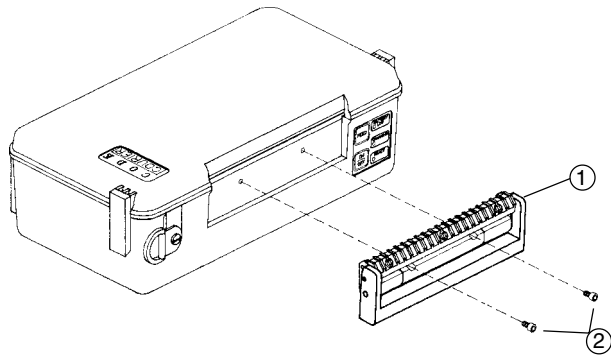

Figure 1. Code Courier peel-back attachment installation
6. Place the peel-back attachment (item 1) in position on the front of the printer, as shown in Figure 1 below.